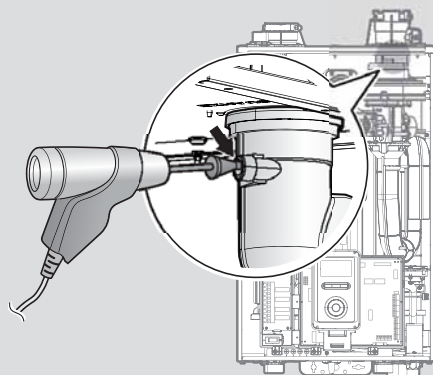

Figure 6. Insert the Analyzer
- Loosen the screw, rotate the plate and remove the gasket to access the emissions monitoring port as shown in Figure 6.
- Insert the analyzer into the port (Figure 6).